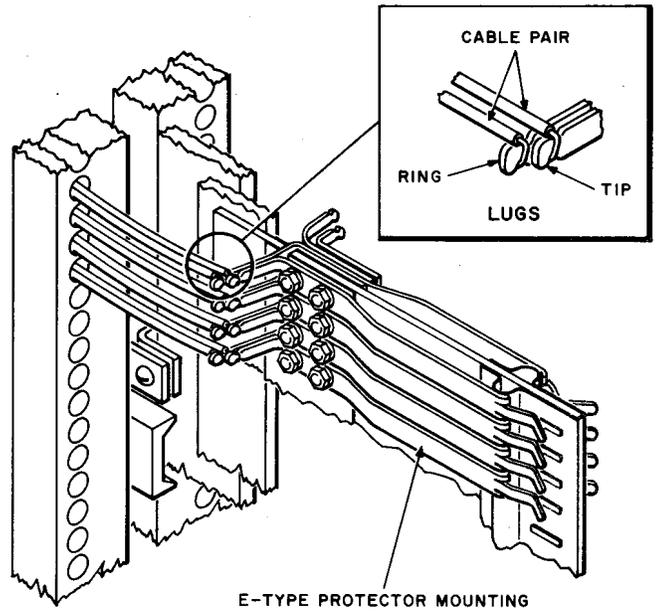

Fig. 7—E-Type Protector Mounting
2.04 The E-type protector mounting is shown in Fig. 7.